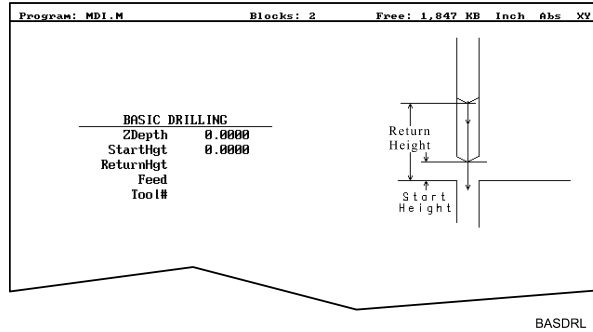

Figure 4-1, BASIC DRILLING Graphic Menu
2. Highlight **Basic** and press **ENTER** to display the **BASIC DRILLING** Graphic Menu. Refer to Figure 4-1, BASIC DRILLING Graphic Menu.